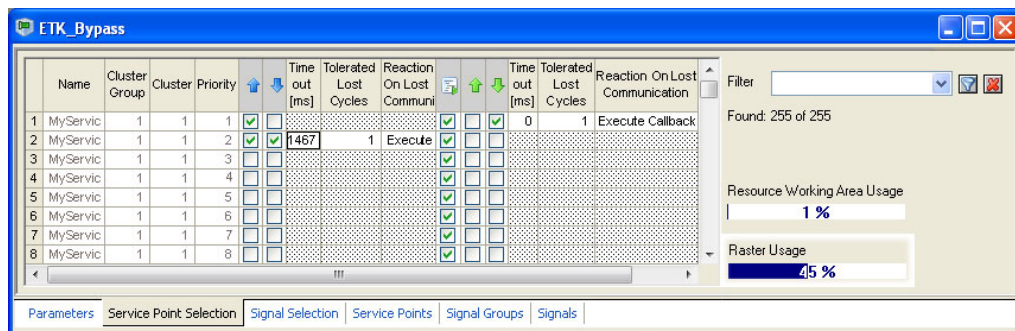

Fig. 11-6 Controlling ECU function execution from the Hardware Configurator
- The ECU function can be deactivated in the service point editor of the Hardware Configurator ( column, see Fig. 11-6)